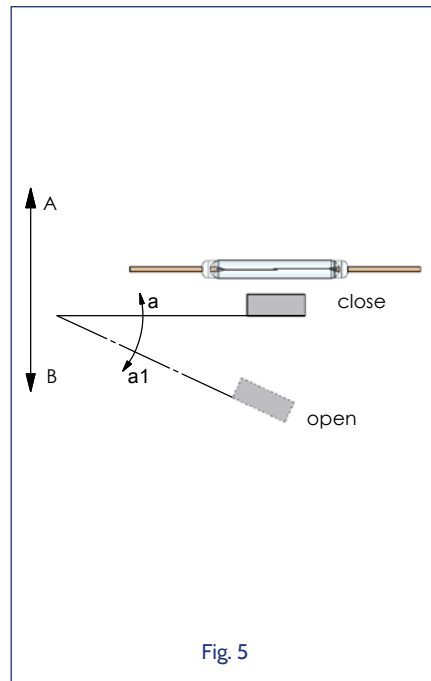

Fig. 5
*Figures 5 and 6 show a normally-open contact. When the level of fluid increases, the float moves from B towards A. As soon as the magnet in the float reaches point A, the contact closes. When the level of fluid drops, the float moves from A towards B, and as soon as the magnet reaches point a1 the contact opens.*